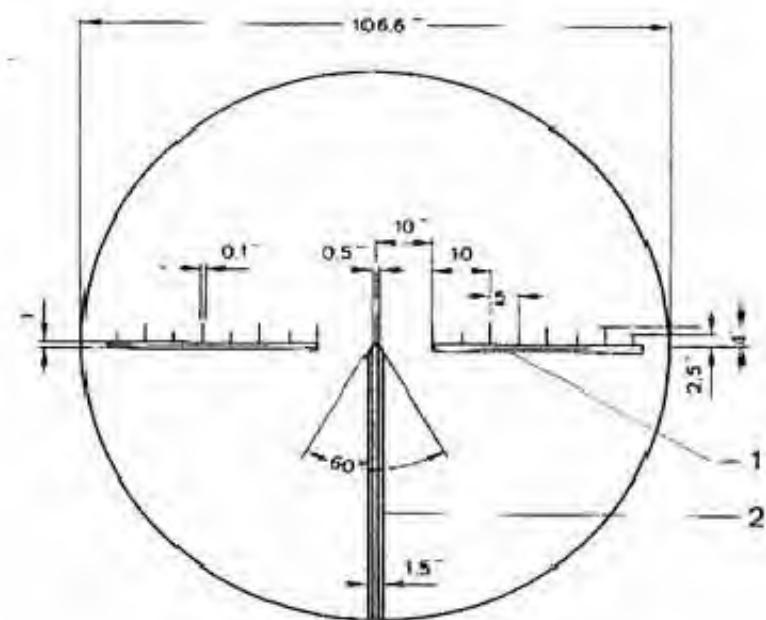

Fig. 5 FERO-Z 24
- 2.3 Putting Telescope Sight into Operation and Boresighting (Fig. 5)**